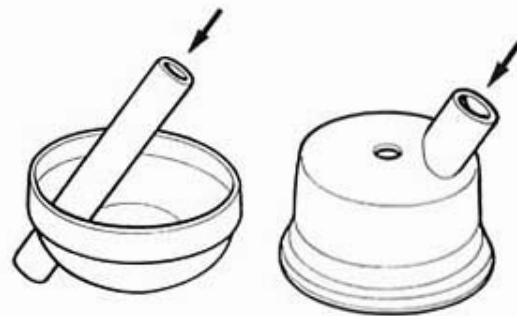

Fig. 4
- Clean out the holes in the inner baffle plate and tail pipes (fig. 4).